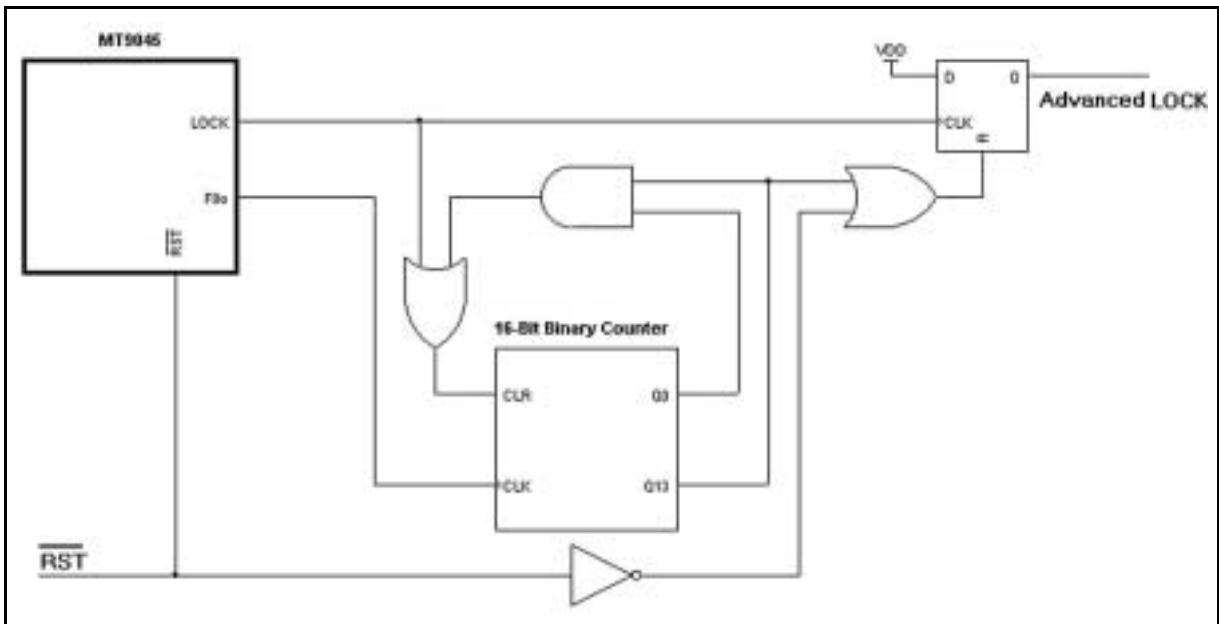

Figure 12 - Digital Lock Pin Circuit
A digital alternative to the RC-time-constant circuit is presented in Figure 12. The circuit in Figure 12 can be used to generate a steady lock signal. The circuit monitors the MT9045's LOCK pin, as long as it detects a positive pulse every 1.024 seconds or less, the Advanced Lock output will remain high. If no positive pulse is detected on the LOCK output within 1.024 seconds, the Advanced LOCK output will go low.
* See Figure 12.